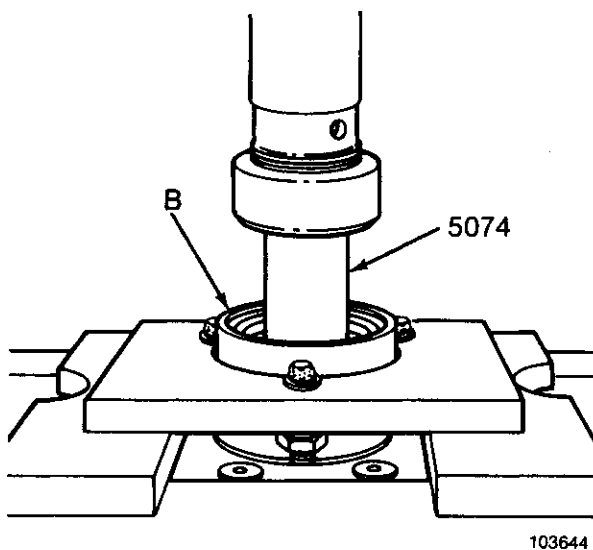

Fig. 4
3. Press the hub out of the carrier (B) with press pin 5074 (Fig. 4).